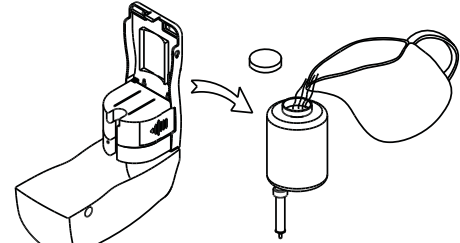

Fig. 9
2. For refilling liquid soap into the container, always remove the container completely from the housing and then fill it. **NEVER** never fill when the soap tank is still in the dispenser housing. (Fig. 9)